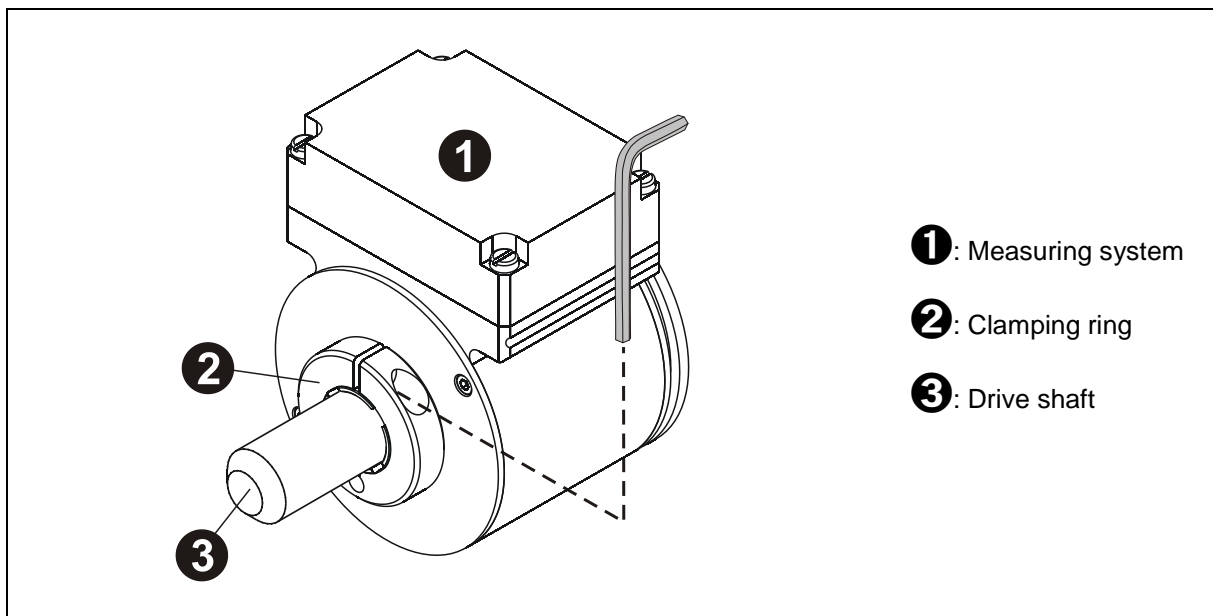

Figure 4: Friction locking
- Axial slipping of the measuring system on the drive shaft must be prevented by fixing the clamping ring in position, see Figure 4.